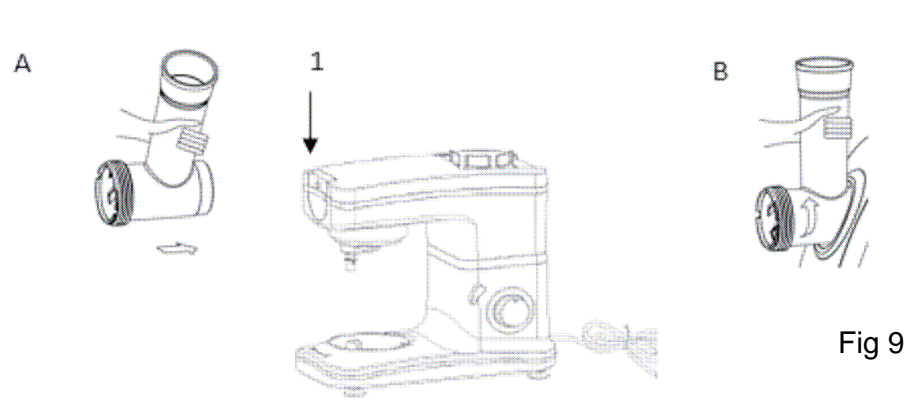

Fig 9
2. Hold the grinder part at about 2 o'clock position and insert into opening. (Fig.9-A)
Turn to the left to lock in place (Fig. 9-B)